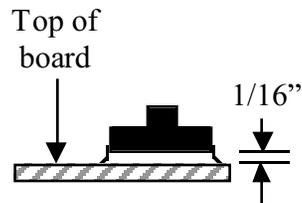

**Figure 5-1**
- Locate the Spacer Set PC board (Figure 5-1). Using long-nose pliers, carefully break out the pushbutton switch spacing tool and the four backlight LED spacers. Break the material only at the four indicated points. **Note:** The switch spacing tool doubles as the PC board for the RF probe, which will be assembled later.